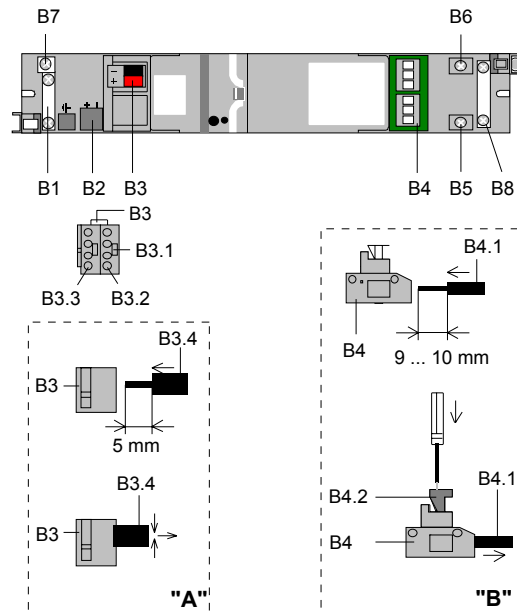

Figure 3: Connections
Slipping off bus connection blocks (Figure 3)
Slipping on bus connection blocks (Figure 3)
Connecting bus cables (Figure 3 "A")
- The sheathing of the bus cable must be attached to the casing of the built-in device via the conductor fixing (B1). When using a cable with shielding, it can be screwed onto the terminal (B7, Figure 3).
The recess (B2) can be used to accommodate an over-voltage protection which is connected to the bus connection block in parallel with the bus line (Figure 3).
Disconnecting bus cables (Figure 3 "A")
Connecting load circuits (Figure 3 "B")
- The sheathing of the bus cable must be attached to the casing of the built-in device via the conductor fixing (B8, Figure 3).
The terminals (B5) and (B6) are used to connect the N wire (B6) and PE wires (B5) of several cables (Figure 3).
Disconnecting load circuits (Figure 3 "B")